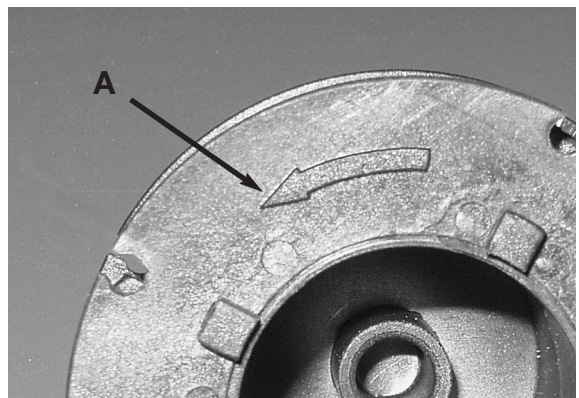
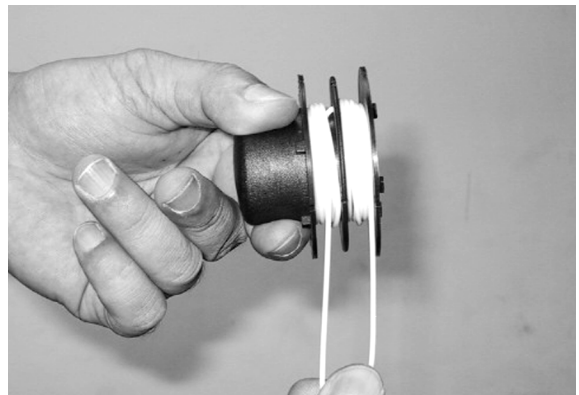

Fig. 21
Fig. 22
5. Wind the line onto the spool by turning the spool. The line should go on in the direction of the arrow (A) on the spool (Fig. 21). Line should be wrapped tightly around the spool. The line is wound with each half separated by the divider. Tightly wind it until there is about 6" of line left (Fig. 22).